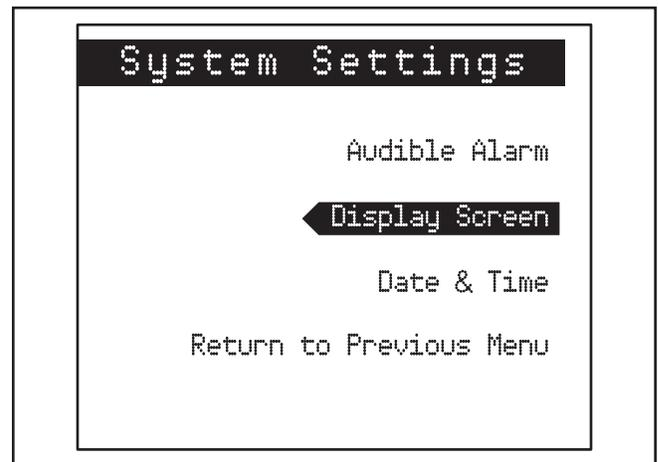

Figure 5: System Settings Menu
1. From the Main Menu, scroll until System Settings is highlighted and press the Select button. The System Settings menu is displayed (see Figure 5).